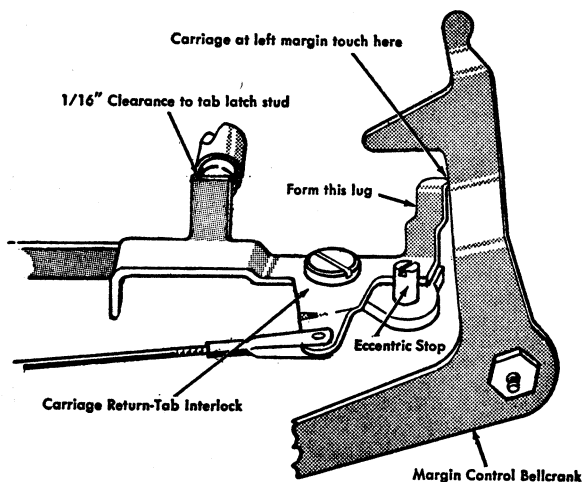
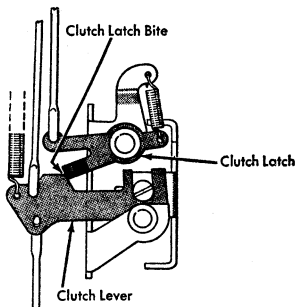

Figure 47. Carriage Return Tab Interlock Adjustment
Figure 48. Clutch Latch Bite
- c. With the carriage at the left margin, form the interlock so that it clears the tab latch stud by about 1/16" when the left-hand lug on the interlock is in contact with the margin control bellcrank (Figure 47).
15. THE ECCENTRIC STOP for the carriage return tab interlock (Figure 47) is adjusted to permit the clutch latch to engage the clutch lever by $1/3$ to $1/2$ of the clutch latch surface when the clutch is fully latched (Figure 48).